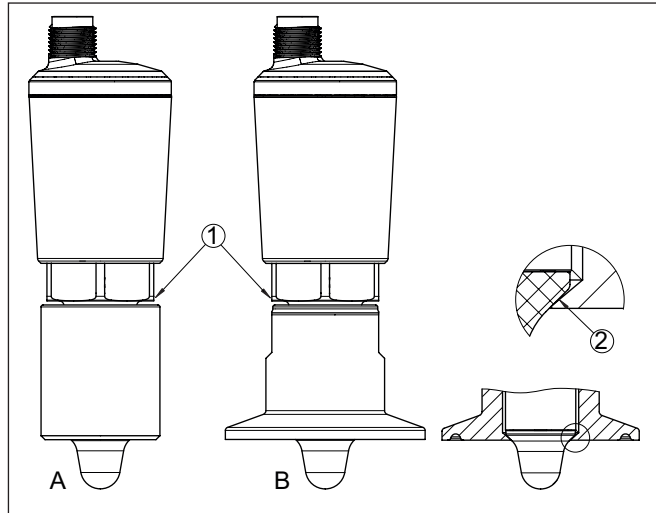

Fig. 4: VEGAPOINT 11, 21, 31 in hygienic version
This leaves a small gap (1) below the hexagon [Fig. 4].